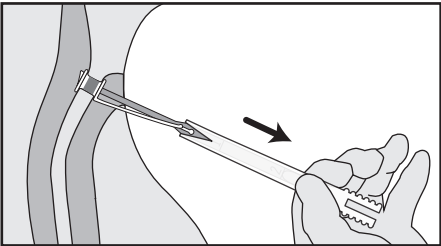

Figure 11
5. **Release the prosthesis** by removing the loading tube (the inserter remains in position) (Fig. 11). If the tracheal flange does not unfold automatically, rotate and pull the inserter pin, or use a non-toothed hemostat to pull the tracheal flange and rotate this in position.